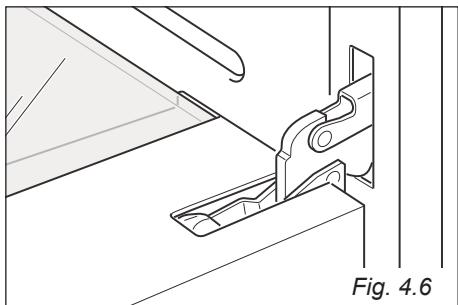

Fig. 4.6
- Open the door to the full extent (fig. 4.6).